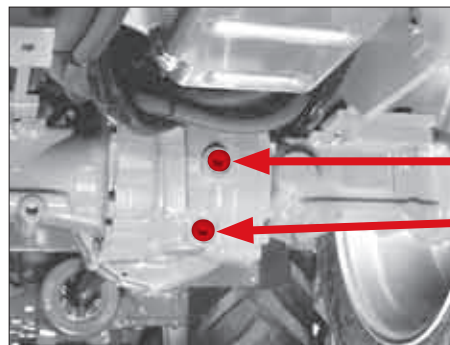

Fig. 95
4. Remove the hex socket screws items a, c, e (Fig. 95/96/97). For the wheel reduction gears raise the wheel with a jack first and turn it so that the hex socket screw Item e (Fig. 97) is horizontal.
7. Replace the hex socket screws items a, c, e (Fig. 95/96/97).
4. Place a sufficiently large receptacle under the drain opening of the differential housing item b (Fig. 95).
5. Remove the hex socket plug Item a (Fig. 95); the transmission oil will now drain more quickly.
6. Remove the hex socket plug Item b (Fig. 95).
4. Install the hex socket screw on the differential housing Item b (Fig. 95) back in.
5. Pour new transmission oil through the filler neck into the axle Item a (Fig. 95).
7. Install the hex socket plug Item b (Fig. 95) on the differential housing back in.